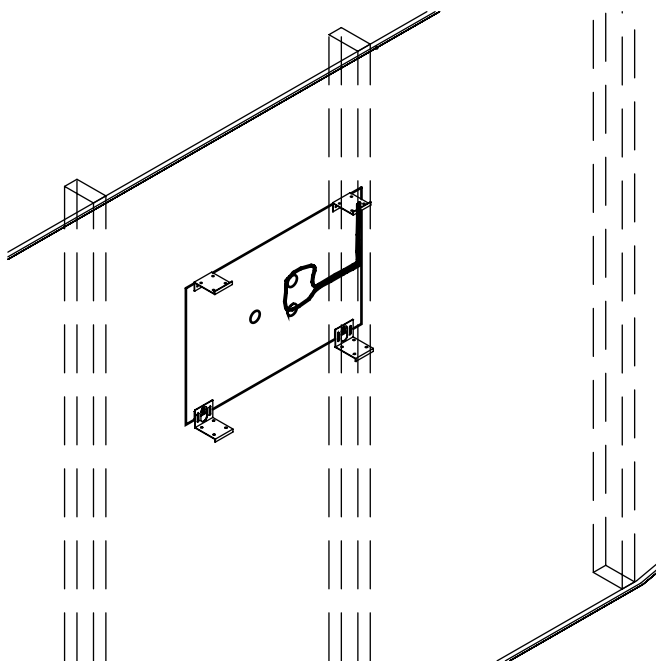

fig. 5
5. Locate the cardboard Installation Aid/Mounting Bracket. If the separation between the studs/joists is 21 1/2 " (54.6 cm) or more, place the Installation Aid/Mounting Bracket with the short sides (14" - 35.6 cm.) parallel to the studs/joists. (please see fig. 5)